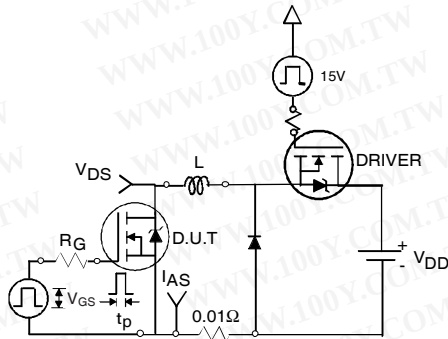

Fig 12a. Unclamped Inductive Test Circuit
- ③ $I_{SD} \leq 75A$, $di/dt \leq 220A/\mu s$, $V_{DD} \leq V_{(BR)DSS}$, $T_J \leq 175^\circ\text{C}$.
- ④ Pulse width $\leq 1.0\text{ms}$; duty cycle $\leq 2\%$.
- ⑤ $C_{oss \text{ eff.}}$ is a fixed capacitance that gives the same charging time as C_{oss} while V_{DS} is rising from 0 to 80% V_{DSS} .
- ⑥ Limited by T_{Jmax} , see Fig.12a, 12b, 15, 16 for typical repetitive avalanche performance.
- ⑦ This value determined from sample failure population. 100% tested to this value in production.
- ⑧ This is applied to D²Pak, when mounted on 1" square PCB (FR-4 or G-10 Material). For recommended footprint and soldering techniques refer to application note #AN-994.
- ⑨ Max $R_{DS(on)}$ for D²Pak and TO-262 (SMD) devices.
- ⑩ TO-220 device will have an R_{th} value of 0.45°C/W .
3. Equation below based on circuit and waveforms shown in Figures 12a, 12b.